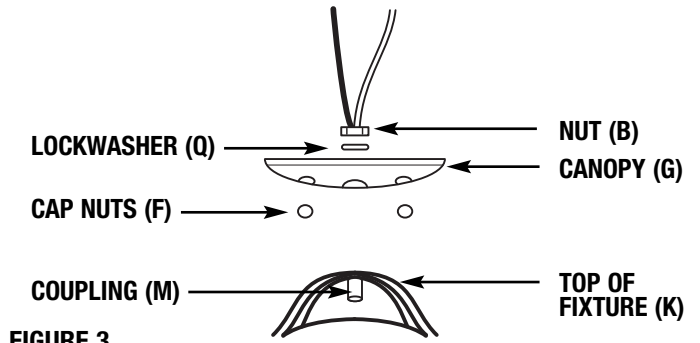

FIGURE 3
STEP 2: FOR FLUSH MOUNT (IF APPLICABLE) (FIG. 3)